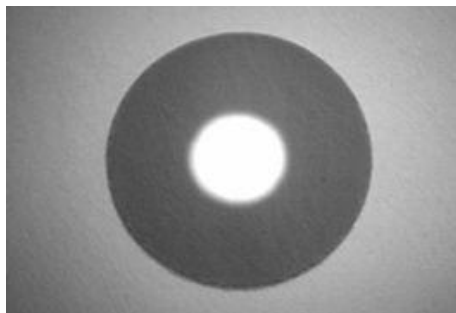

Figure 21
- 6.2. Inspect the fibre end face (figure 21).